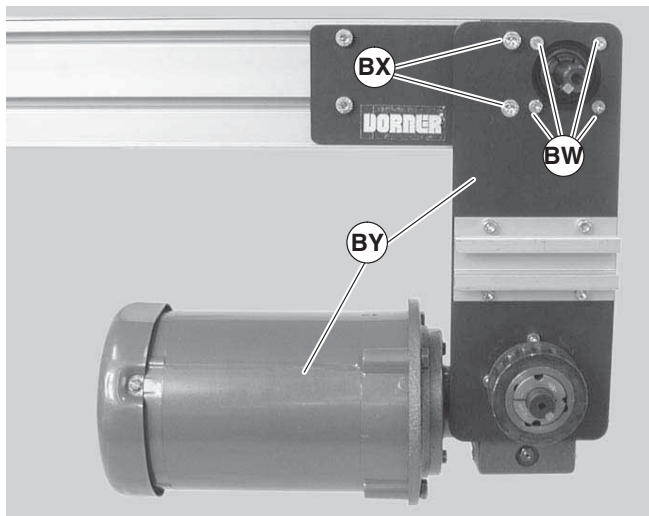

Figure 62
- b. Loosen the four (4) lock screw (Figure 62, item BZ).